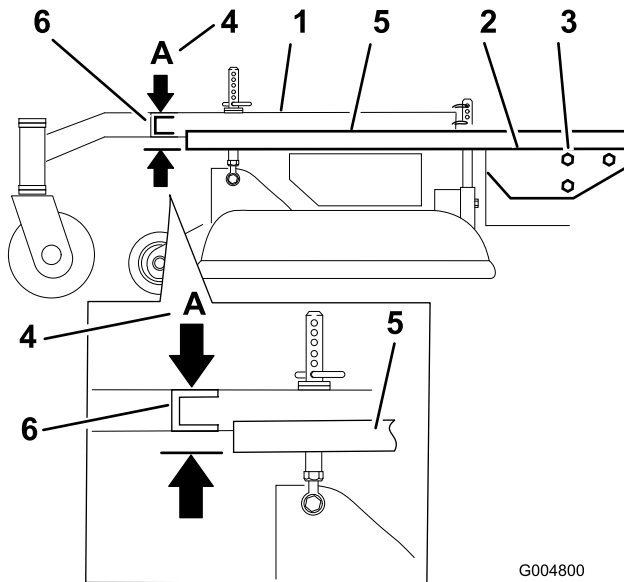

Figure 78
3. Place a long straight edge on top of the engine deck as shown in Figure 78.
4. At the carrier frame cross channel, measure the height at location **A** (Figure 78). This measurement must be 1-5/16 inch (33 mm), plus or minus a 1/4 inch (6 mm).
- Loosen the carrier frame mounting bolts on both sides of the machine (Figure 78).
- Align the carrier frame and engine deck to match 1-5/16 inch (33 mm), plus or minus a 1/4 inch (6 mm) at location **A** (Figure 78).